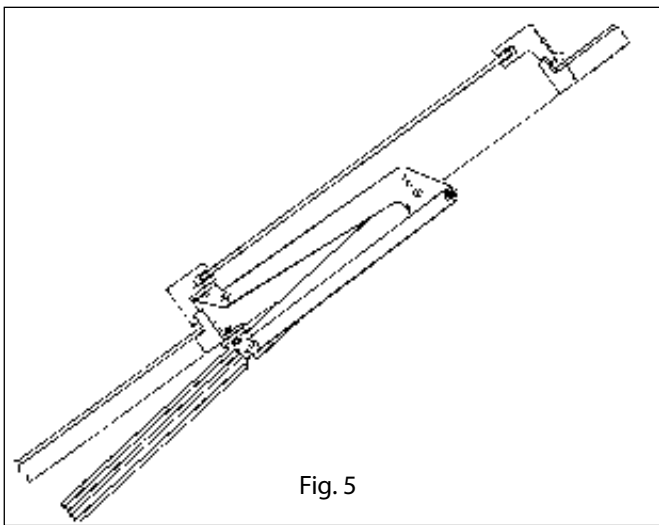

Fig. 5
- .1 Firstly you will have to choose in which direction you want the spring/shockabsorber – and later the cylinder- to face (see fig. 5+6). If it does not by delivery face in the desired direction, then you yourself can undo it and turn it a 180° (see fig. 2 + 3 + 4) before refastening it.
- .4 Turn the reliefbolt (relieves the springload during installation) until the arms all by themselves stay in the desired position for being fastened. Now the brackets can be fastened to the frame and the sill (see fig. 5 + 6), while the window or the lid is kept closed. Notice : the arms closest to the window should be parallel to it (see fig 5 + 6).